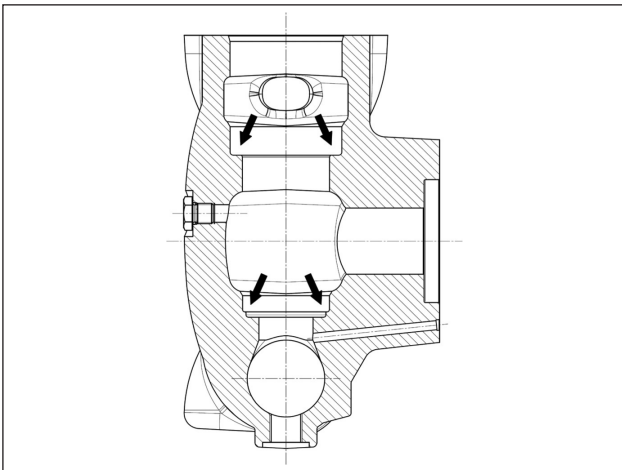

Fig. 107
**Before repositioning the valve units, thoroughly clean and dry the relative housings on the head indicated by the arrows (pos. ①, Fig. 107).**